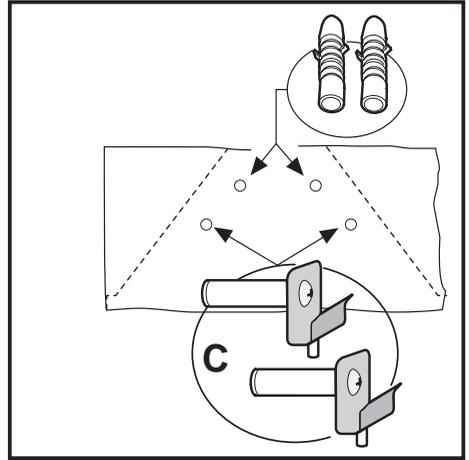

Fig. 5
- Place the template against the wall. The lower edge of the template must match the lower edge of the hood (Fig. 5).
- Drill two Ø 8mm holes and two Ø 12mm holes (Fig. 5).
- Fit the two Ø 8mm plugs in the top holes (Fig. 5).
- Fasten the two hooks **C** in the bottom holes (Fig. 5).